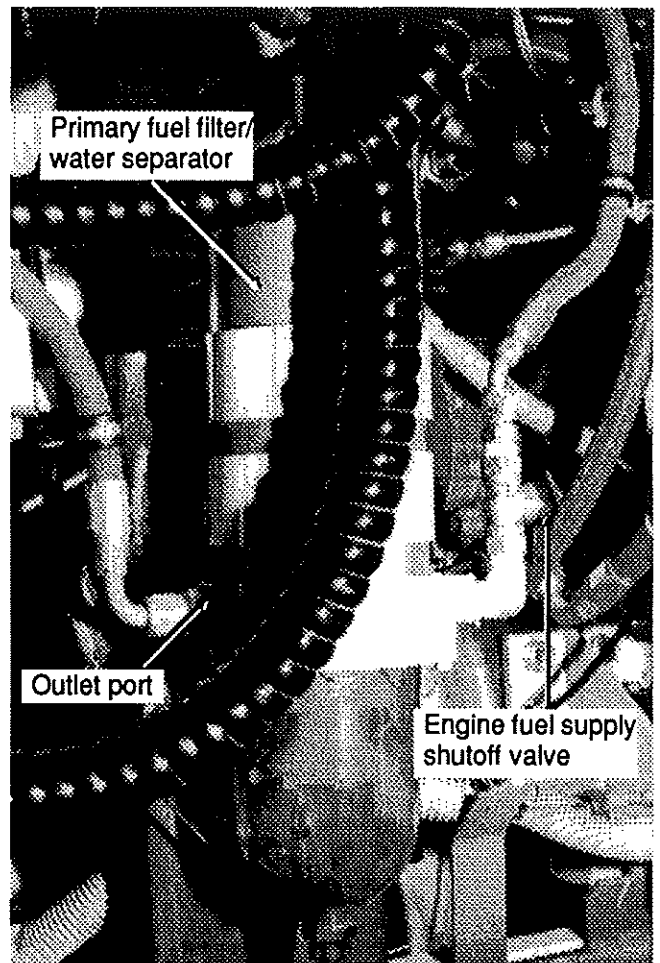

Fig. 14
21. Close engine fuel supply shutoff valve on primary fuel filter, then disconnect the fuel line connected to inlet port, (on vehicle equipped with the optional primary fuel filter/water separator, disconnect fuel line from outlet port, see fig. 14).